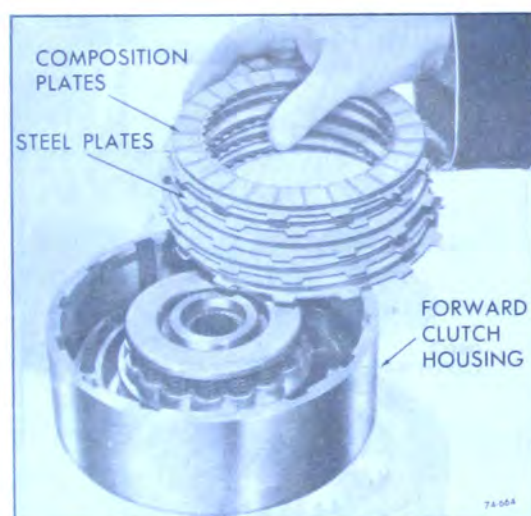

Figure 74-647
4. Remove five (5) radial groove composition and five (5) steel clutch plates. See Figure 74-647.